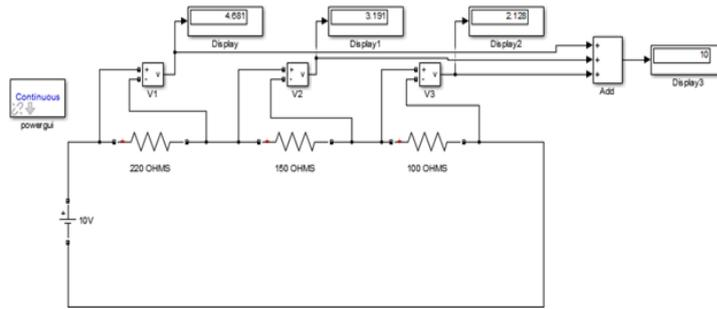
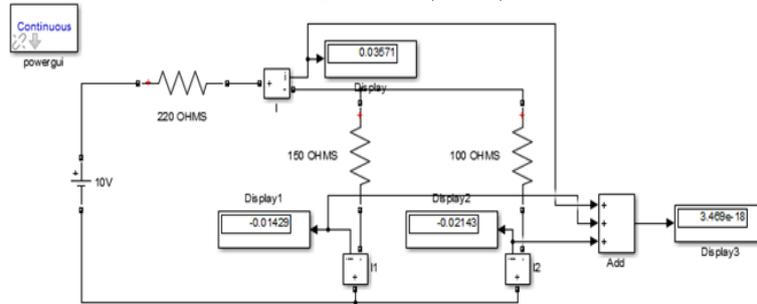

Figure 2.4. The Voltage Law, (KVL) simulation circuit
Figure 2.5. The Current Law, (KCL) simulation circuit
4. Part (4) Design the MATLAB model the circuit as shown in Figure 2.4. and Figure 2.5. Apply a DC power supply of 15V and measure the voltages (V1, V2, V3) and currents (I, I1, I2) in the circuits and complete table 2.4.and table 2.5.Compare the values obtained from part 2 and part 3.